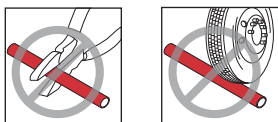

Figure 7: Avoid cutting and crushing the heating cable
- Avoid damaging heating cables by cutting or crushing (Figure 7).